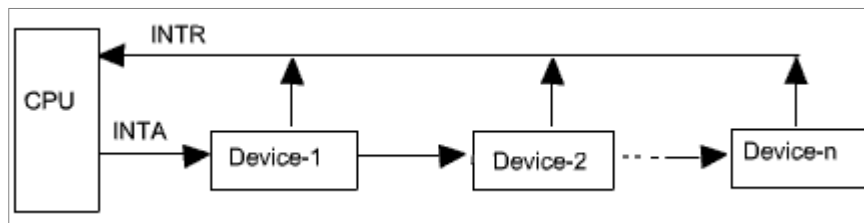

Fig 3.6: Daisy chain arrangement
- In either case, the processor uses the vector as a pointer to the appropriate device service routine. This avoids the need to execute a general interrupt service routine first. This technique is referred to as a vectored interrupt. The daisy chain arrangement is shown in the Figure 3.6.